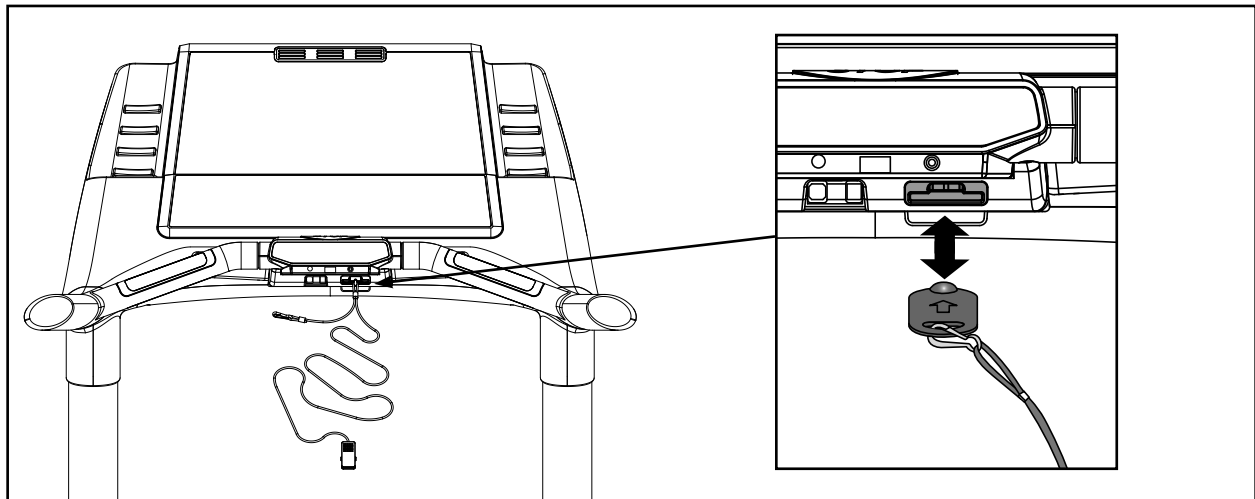

Figure 2
2. Without falling off the treadmill, carefully step backward until the e-stop pulls out of the console. See Figure 2. **NOTE:** If the e-stop clip falls off your clothing then the test has failed. Reclip the e-stop clip to your clothing and repeat this step.
3. Replace the e-stop key. See Figure 2.